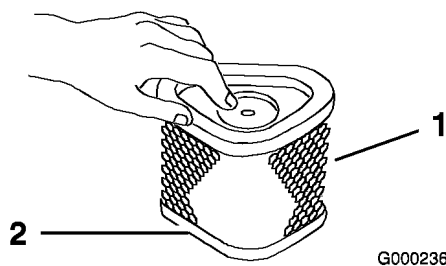

Figure 28
3. Put one or two ounces of oil on the element (Figure 28). Squeeze the element to distribute the oil.